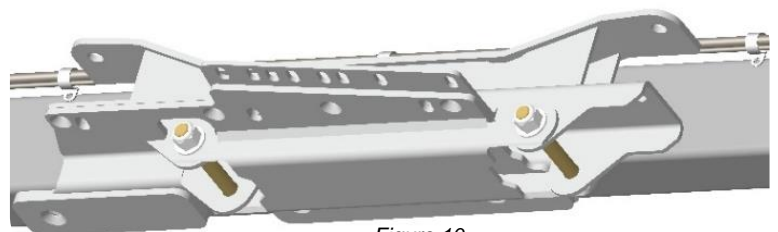

Figure 10
44. Locate the lower control arm mounting bracket, gusset plates, and hardware kit 155 (see figure 10). Align the LCA mounting holes with M14 bolts then secure the control arm gusset plates onto the control arm mounts using four 3/8 x 1 flat head screws and flange nuts per side. There is a left and right for each part, ensure the countersinks match up to the bolts for a flush finished product. Tighten 3/8 bolts then remove M14 bolts from LCA mounts.